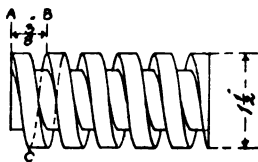

FIG. 53
*Screws and toothed wheels, &c.* A knowledge of the proper method of delineating a screw of any diameter and pitch will be found very useful, although in practical work screws are generally shown in a very conventional manner. Suppose, for example, we had to draw a single-threaded screw  $1\frac{1}{2}$  inches diameter,  $\frac{3}{8}$  inch pitch, right-handed square thread, the screw properly drawn would appear as shown in fig. 53, but to